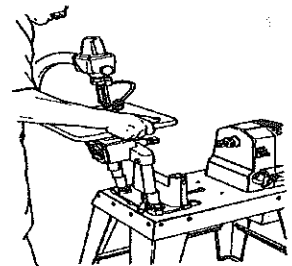

Fig.G-1
4. Insert the Jigsaw into the short holes of the Power Station carriage (21), with the Jigsaw's drive shaft pointed toward the Power Station headstock. See Fig G-1. You may need to adjust the Jigsaw's tubes to fit them into the holes.